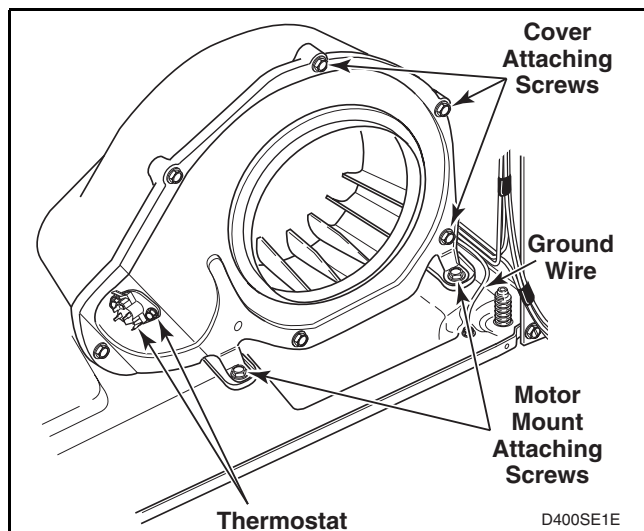
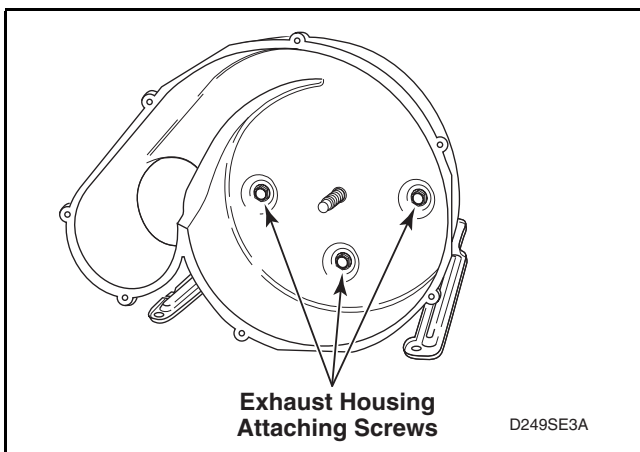

Figure 42
Figure 45
IMPORTANT: When reassembling, be sure seal on exhaust fan cover makes airtight seal on flange of duct. Refer to *Figure 42*. If the seal is installed improperly, the airflow through the exhaust system will be restricted, which can adversely affect dryer performance.
- f. Remove screw holding ground wire to dryer base. Refer to *Figure 42*.
- i. Remove two screws holding motor mounting bracket to dryer base. Refer to *Figure 42*.
- (1) Remove screws holding cover to housing. Refer to *Figure 42*.
- (2) Hold motor pulley securely and unthread impeller from motor shaft (right hand thread). Use a 7/8 inch, 6 point socket to aid in the removal of the impeller.
- (3) Remove three screws holding the exhaust housing to the motor mounting bracket. Refer to *Figure 45*.